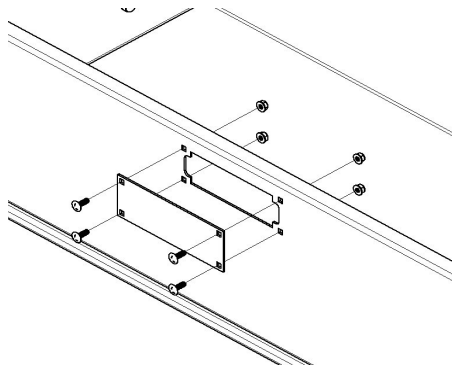

Figure 4
- B. The blank plate (no lock), t-handle lock, and combination lock plate, all install in the same way (See Fig. 4).